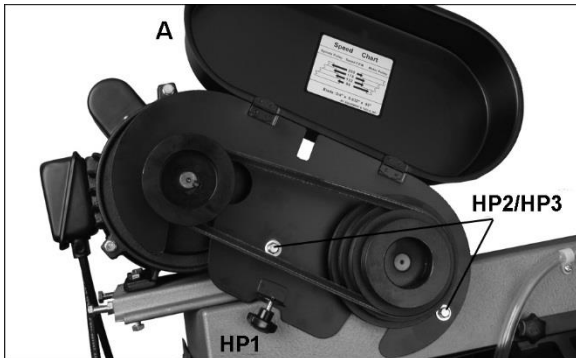

Figure 6-11: installing pulley cover
7. Slide the pulley cover (A, Figure 6-11) over the spindles and secure with screws and washers (HP2/HP3), using 10mm wrench.